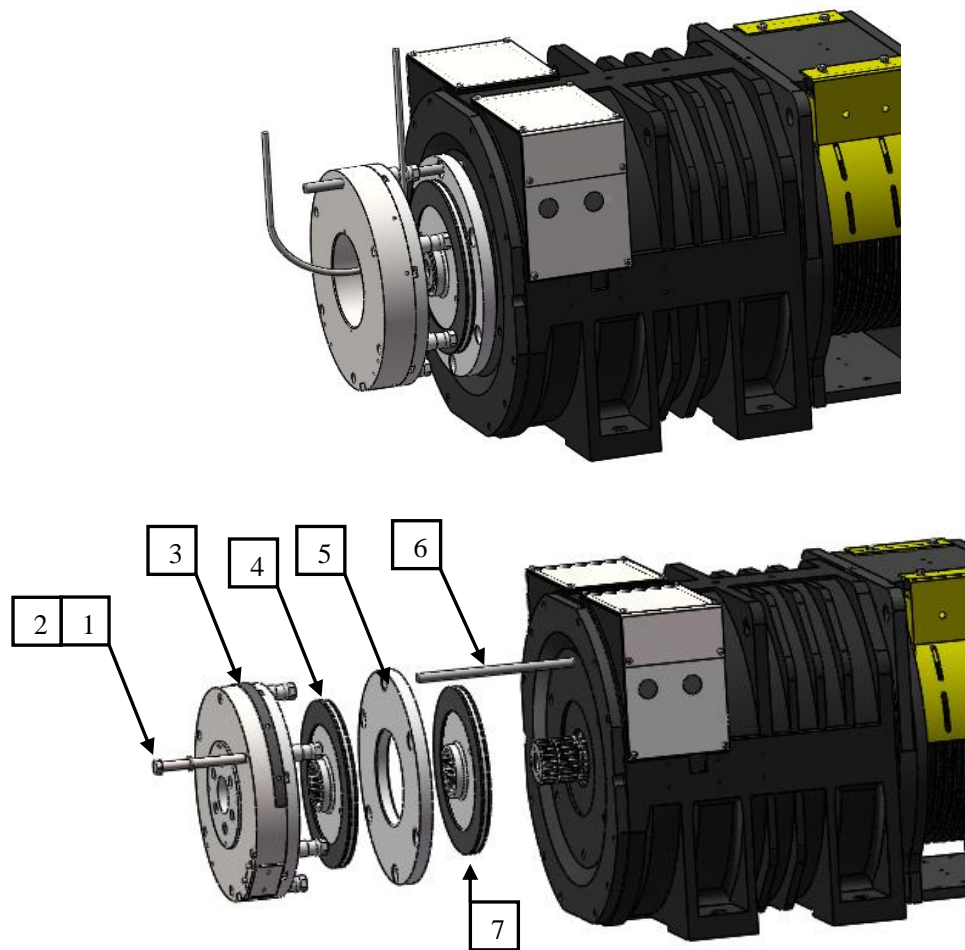

Figure 49: Removing Normal Brake Parts (TMGL2)
9. Loosen other 5 bolts M16x165 evenly, move out the normal brake, then hoist out the brake with hoisting ropes and remove brake coil body and friction lining. See Figure 49.